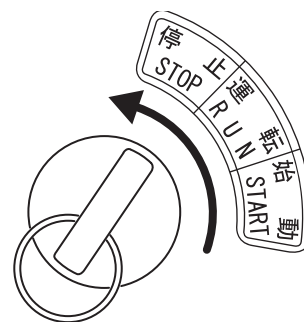

Figure 20. Key Switch (Stop)
3. Turn the key to the "Stop" position (Figure 20). The buzzer will stop.